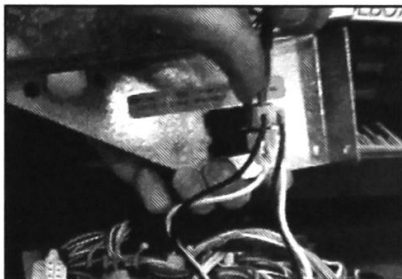

FIGURE 15
17. Disconnect top Line and Neutral connectors. Using pliers, disconnect the two wires from the master power switch. See Figure 15.